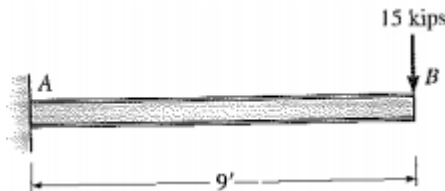

Figure 3
- 7 a) Calculate the deflection and slope at point B for the given beam (Figure 3). [7M]